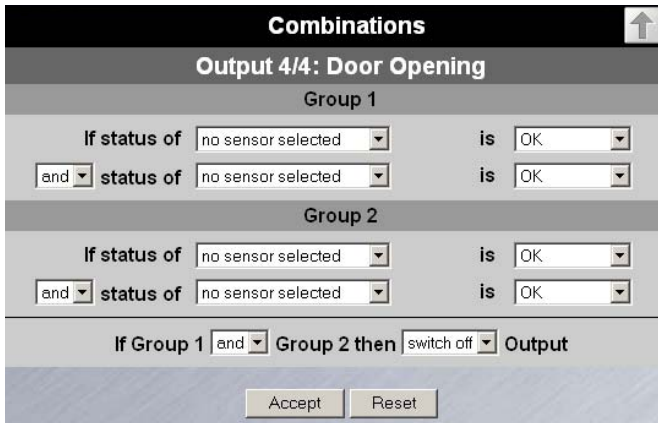

Fig. 12: Combinations website
- Combinations: Calling the "Combinations" menu. See Fig. 12.